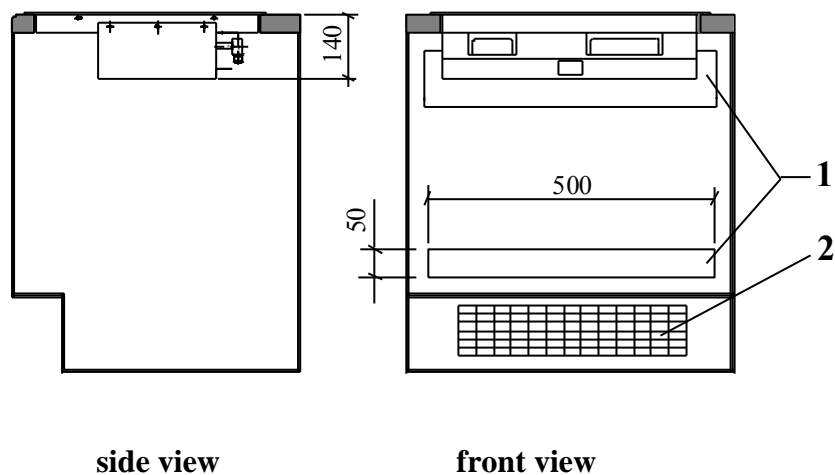

Fig. 4. Assembly
-Because of the need to assure circulation of air, an air inlet grate should be installed in the skirting of the cabinet **fig. 4**.